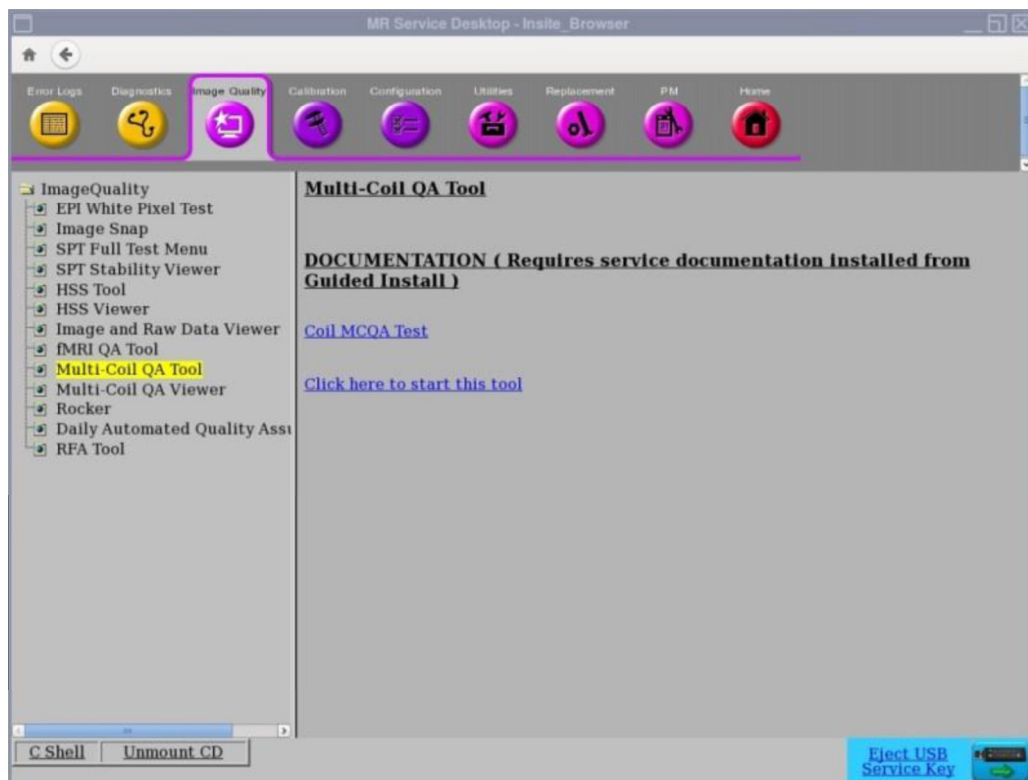

Figure 2: Multi-Coil QA Tool – "Click here to start this tool"
- 1) From Common Service Desktop (CSD), go to **Service Browser** and select **[Image Quality]** "**Multi-Coil QA Tool**" and then "**Click here to start this tool**" as shown Figure 2.